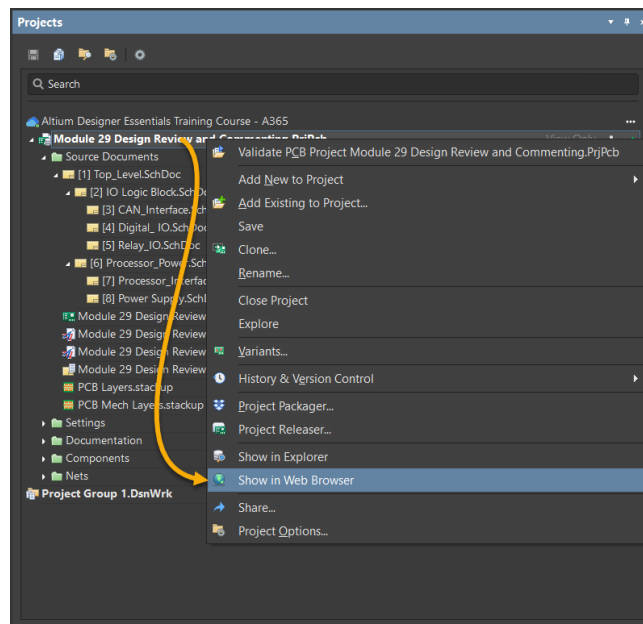

Figure 9. Open Web Browser
16. At the *Project* panel, select the Project file, right click, and execute **Show in Web Browser**, Figure 9.